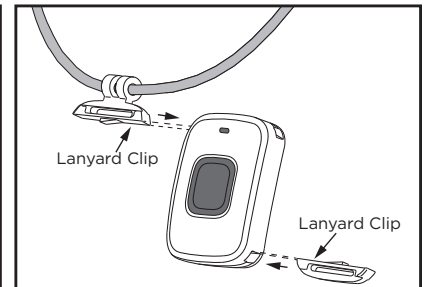

Figure 3: Lanyard Mounting
1. Slide the lanyard mount into the slots. See Figure 3.